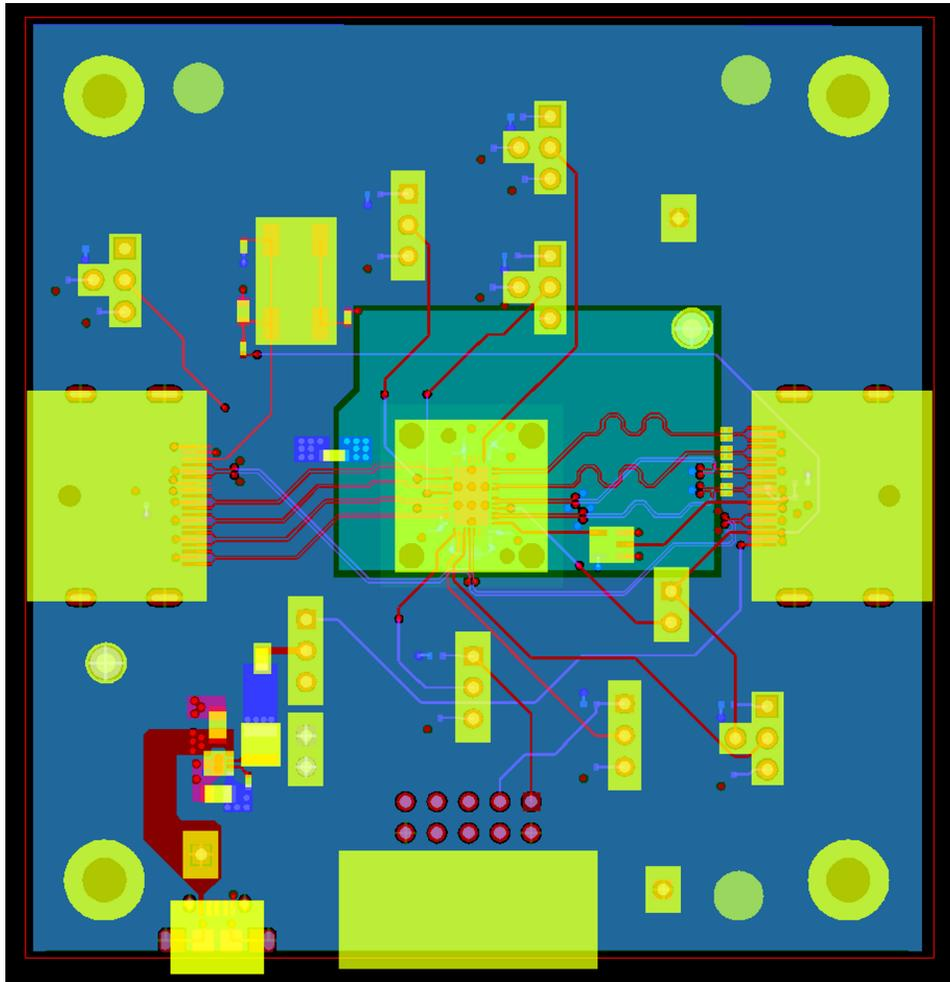

Figure 2. TDP142EVM Board
The EVM can be configured to operate in either GPIO or I²C mode (see Figure 2). In GPIO mode, test headers are provided to configure the input pins for the equalizer (EQ) gain and Voltage Out Differential (VOD) settings. In I²C mode, the I²C can be accessed through a 2 × 5 test header pinned out to match the Total Phase™ Aardvark™ I2C programming module.